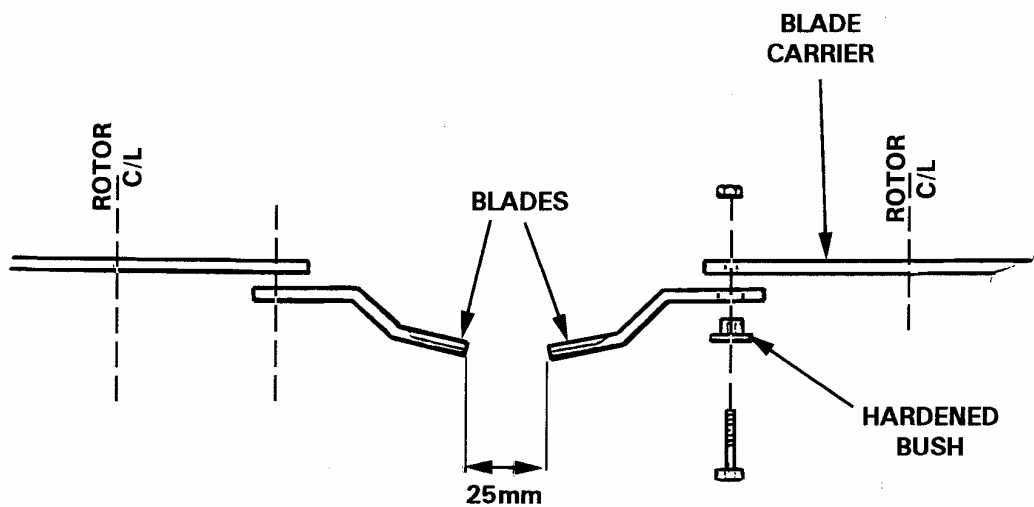

FIG. 10.
- CAUTION (ii) Rotate the new blade by hand and if it makes contact with another blade, remove excess from the new blade using a grindstone until blades rotate without touching. See Fig. 10.